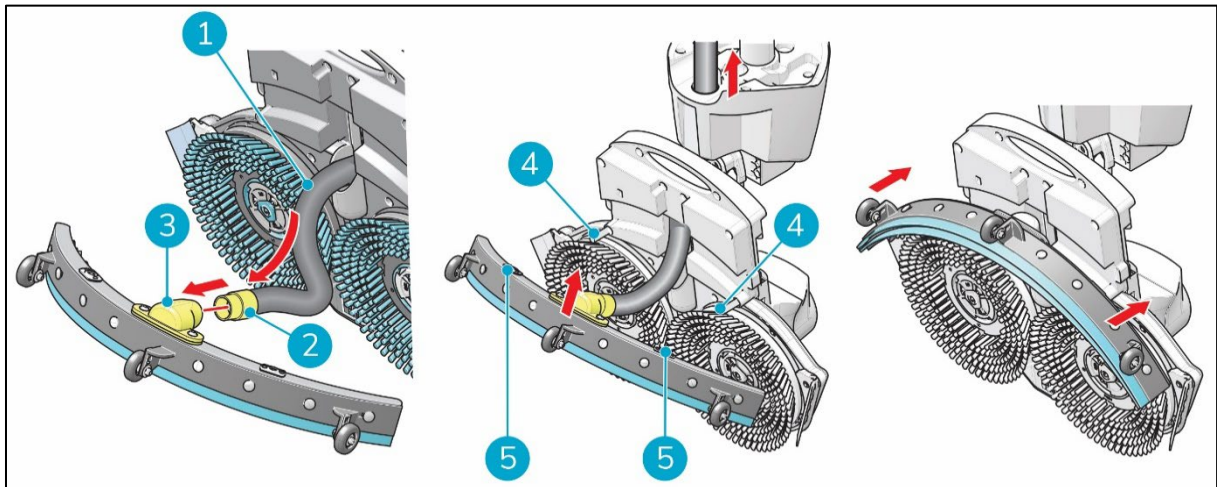

Figure 9
1. Take the vacuum hose (Figure 9, pos 1).
2. Insert the hose connector (Figure 9, pos 2) in the squeegee (Figure 9, pos 3).
3. Twist the hose connector 1/4 turn for a firm fit (Figure 9, pos 2).
6. Align the pins on the scrub deck (Figure 9, pos 4) with the holes on the squeegee (Figure 9, pos 5).